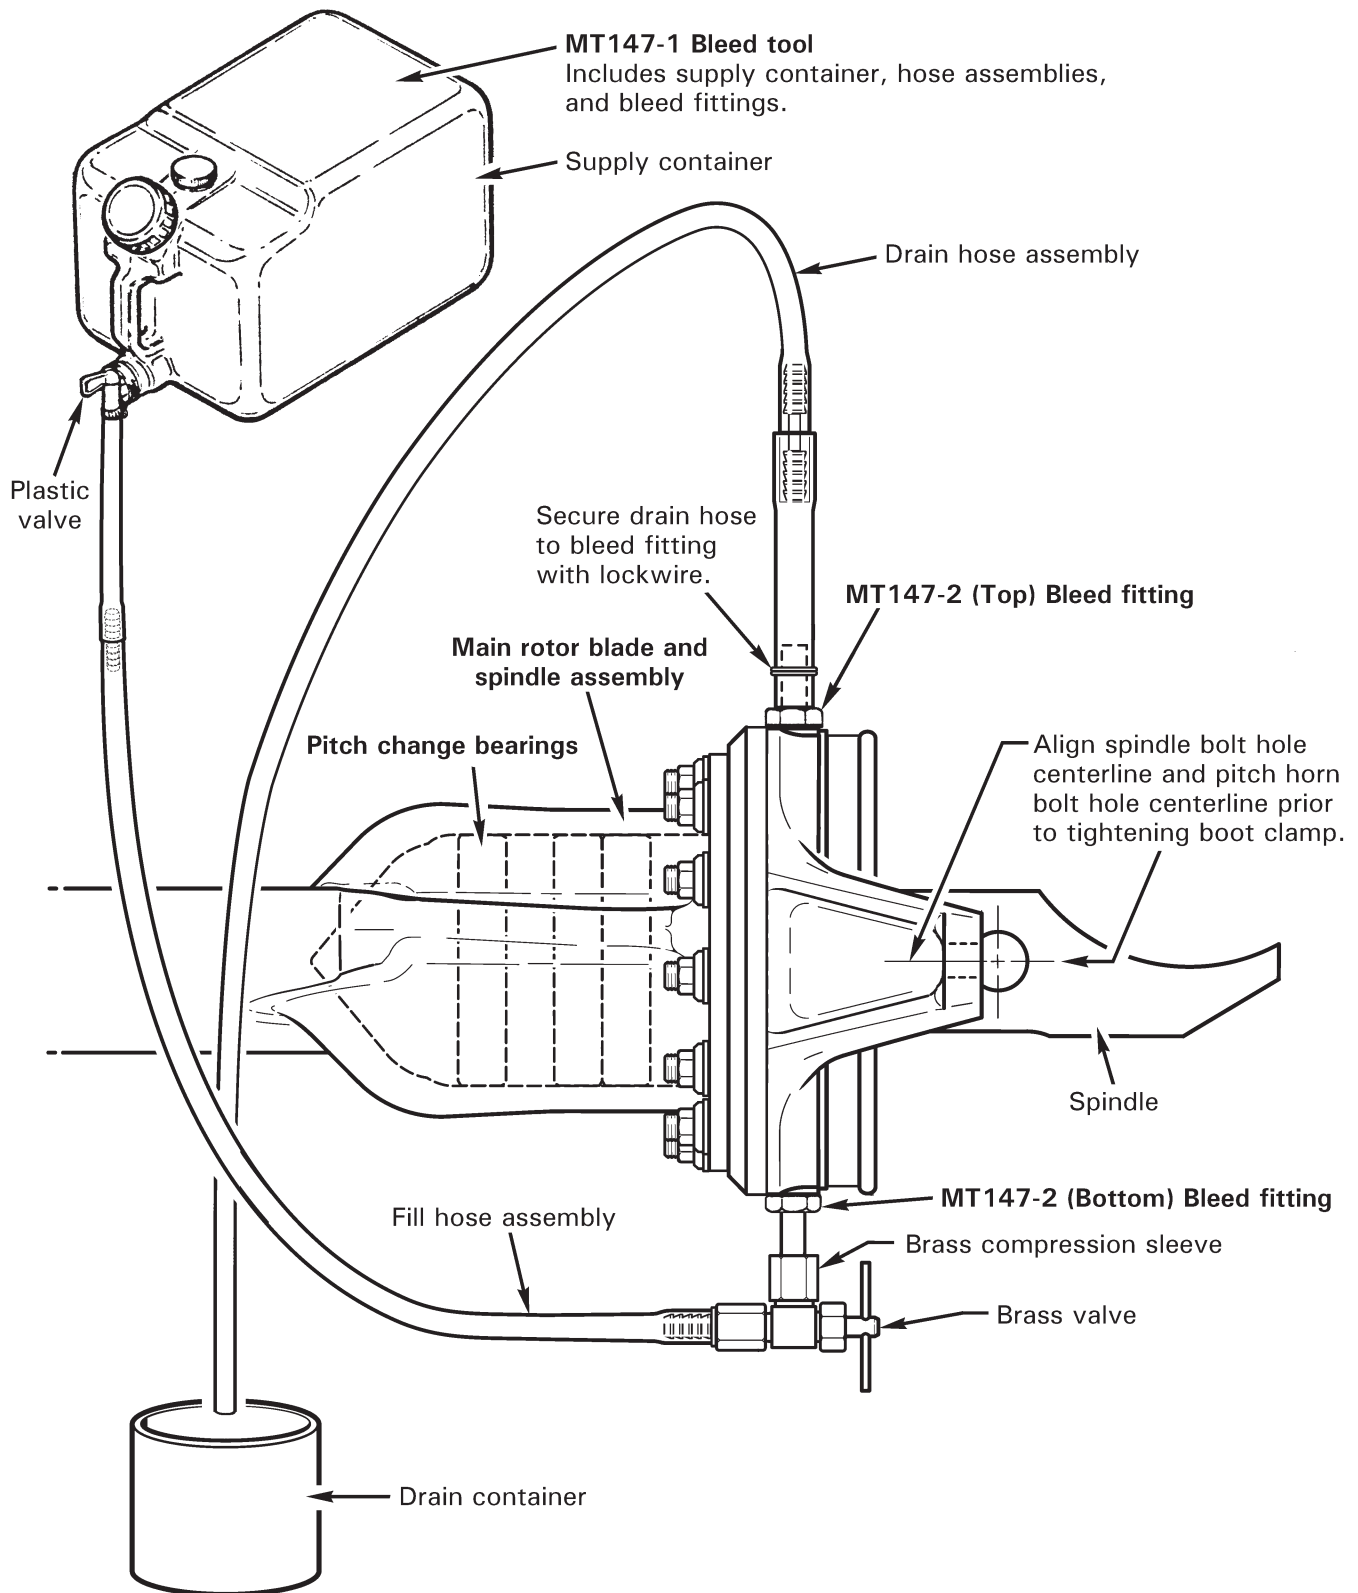

FIGURE 26-3 FILLING PITCH BEARING HOUSING
3. Stretch boot outer lip over pitch horn flange. Rotate spindle and align pitch horn bolt hole with spindle bolt hole per Figure 26-3. Install A165-7 (outer) clamp assembly and tighten clamp. Verify security.
2. Refer to Figure 26-3. Place a suitable drain container below main rotor pitch horn. Remove two B289-2 bolts from pitch horn and drain fluid.